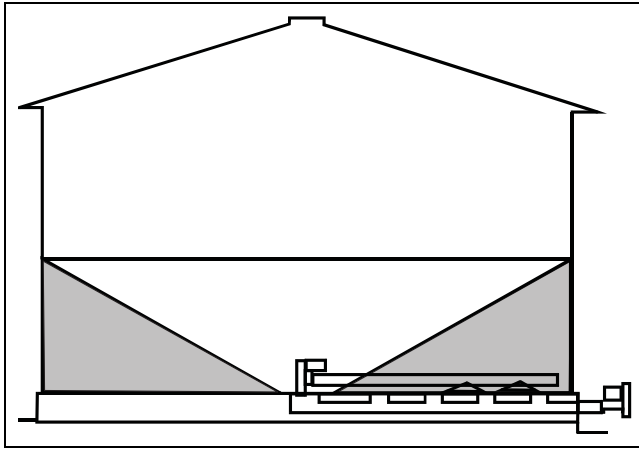
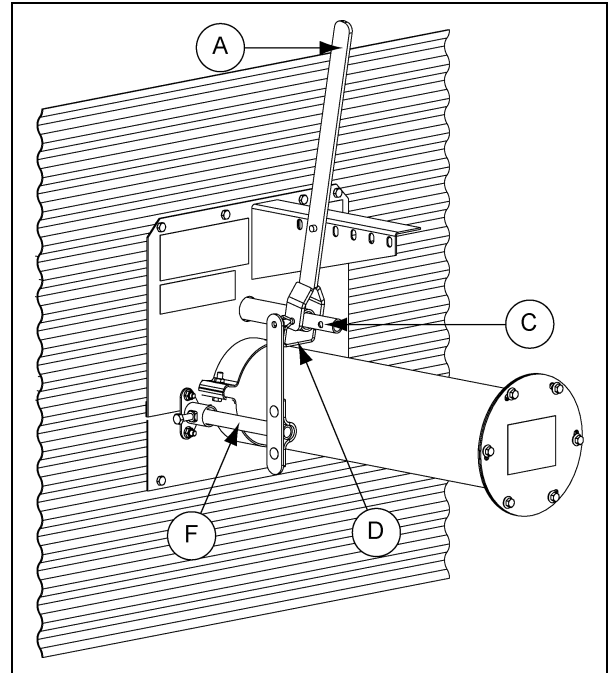

Figure 6B
Figure 6C
5. When grain flow stops from the center well, close the center well gate. Insert the safety snap pin through the control lever and both the intermediate and center well control rods as Figure 6C. The remaining grain should look similar to Figure 6B.
5. When grain flow stops from the center well, close the center well gate. Insert the intermediate well bolt through the intermediate well control rod and the center well control rod. Remaining grain should look like Figure 6B on Page 44.